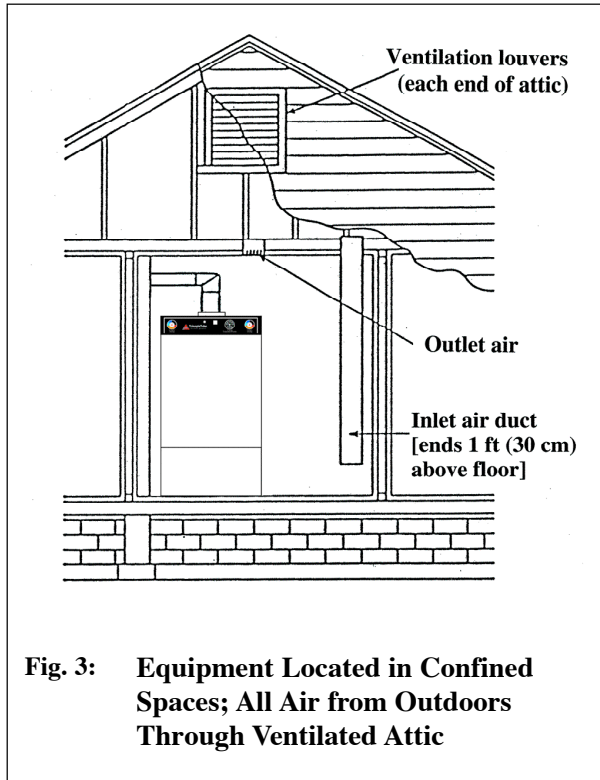

Fig. 3: Equipment Located in Confined Spaces; All Air from Outdoors Through Ventilated Attic
- Where directly communicating with the outdoors or where communication to the outdoors is through vertical ducts, each opening shall have a minimum free area of 1 sq. in./4000 Btu/hr of total input rating of all equipment in the enclosure. See Fig. 3 page 10.